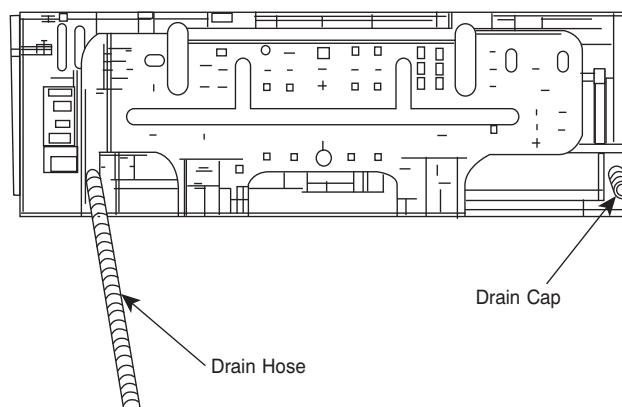

Fig. 9 - Location of Drain Hose & Cap
Clearance - Provide adequate clearance for airflow (see Fig. 9).
- Sizes 18-22 - For ease of installation, the drains can be connected from either the back-left or back-right as shown in Fig. 9.